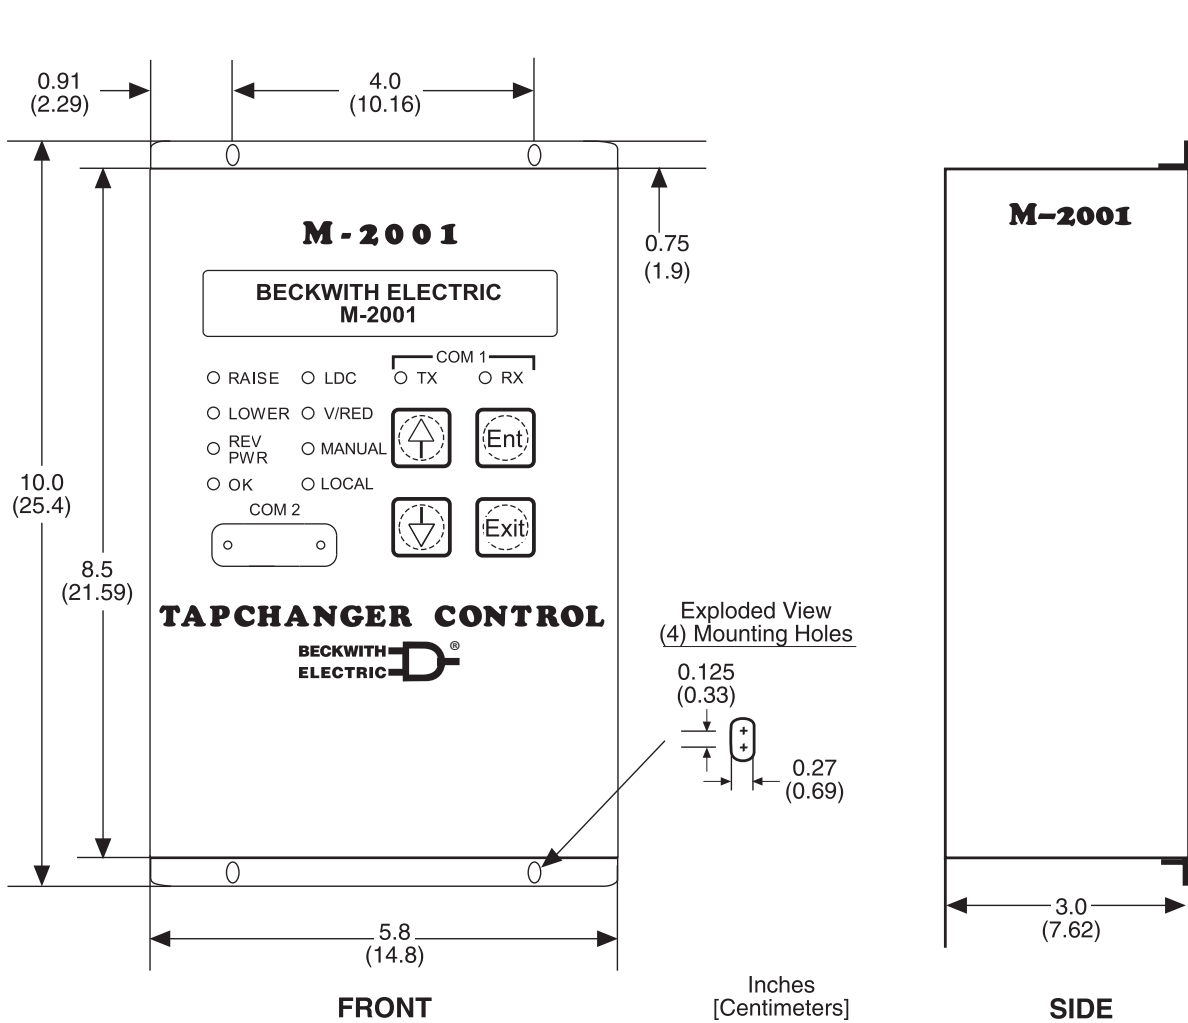

Figure 2 Outline and Hole Drill Dimensions
2. Drill mounting holes as indicated in Figure 2, Outline and Hole Drill Dimensions.